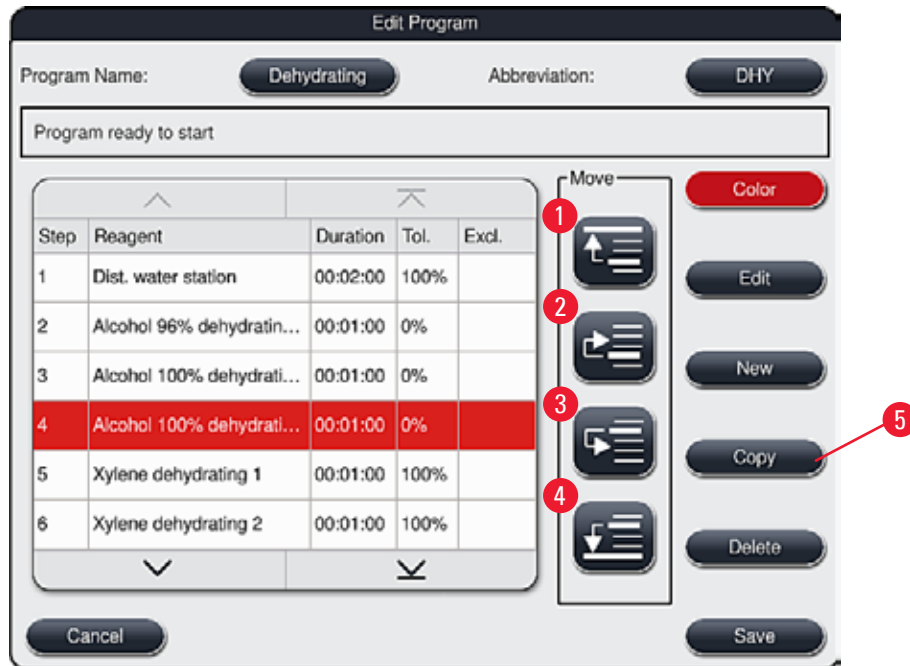

Fig. 49
- It opens the "Edit program step" window (→ "Fig. 49").
- The "Save" button (→ "Fig. 49") is used to apply the changes. Press the "ESC" button to discard the entry.